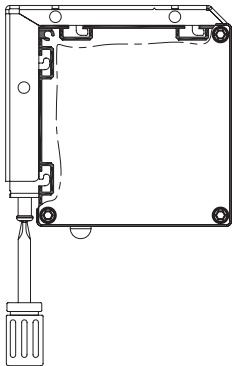

Fig. 11
- To lock the screen firmly to the brackets, turn the locking screws clockwise. The screen will slowly move upwards against the bracket. Once this has been done on both sides, the screen is secured against accidental lifting out of the brackets. This is the only permissible method of installation! (Figs. 11 and 12)